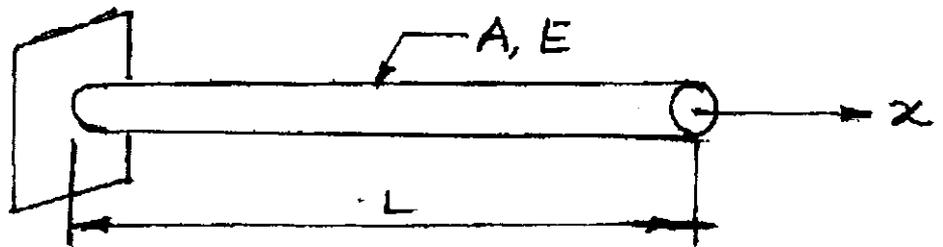

Fig. 7
14. (a) Using two-equal length finite elements, determine the natural circular frequencies of the solid circular shaft fixed at one end shown in Fig.7